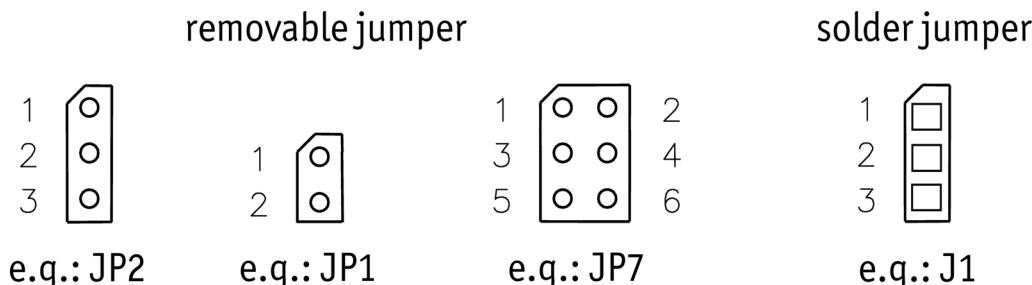

Figure 15: Jumper Numbering Scheme
The phyCORE Carrier Board comes pre-configured with some removable jumpers (JP) and several solderjumpers (J). The jumpers allow the user flexibility of configuring a limited number of features for development purposes. Table 43 below lists the jumpers, their default positions, and their functions in each position. Figure 15 depicts the jumper pad numbering scheme for reference when altering jumper settings on the development board.